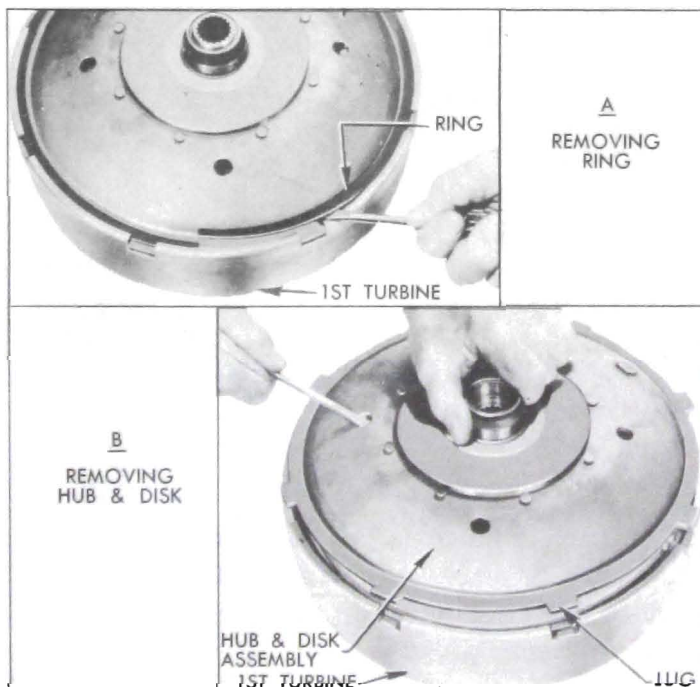

Figure 4-16—Removing Disk and Hub Assembly
1. Pry retaining ring out of groove in first turbine, insert screwdriver in a hole in the disk and lift disk and hub assembly out of first turbine. See figure 4-16.
10. Place second turbine and carrier assembly in first turbine, then install the first turbine disk and hub assembly over the second turbine. See figure 4-16, view B.